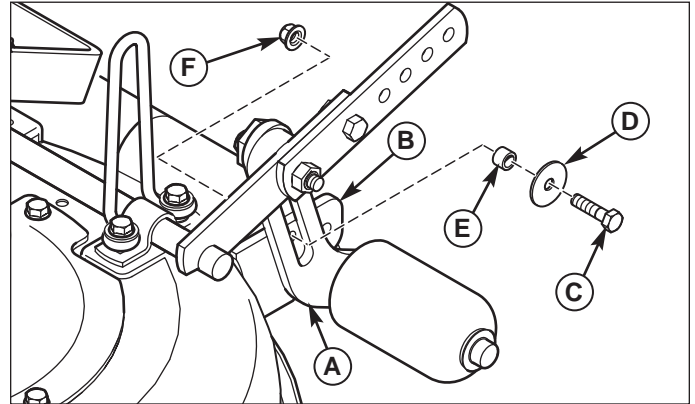

Figure 5. Attach Roller Bar to Mower Deck Left Side
2. Attach the roller bar assembly (A, Figure 5) to the left side of the mower deck (B) using a 5/16-18 x 1-1/4 capscrew (C), 5/16 flat washer (D), spacer (E), and 5/16-18 flange locknut (F). Tighten nut to 11 ft. lbs. (15 Nm)